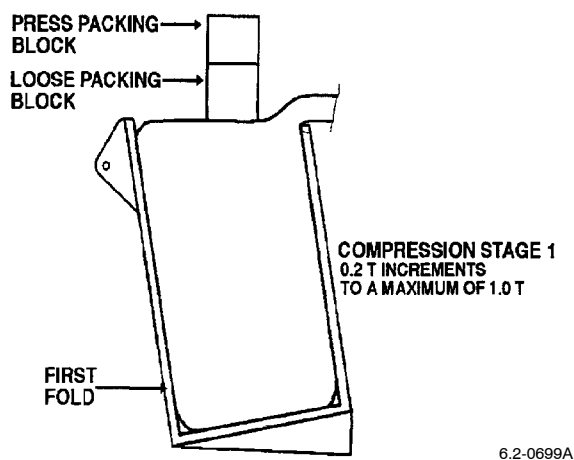

Figure 49. Compressing Deployment Sleeve - Stage 1
b. Position the loose-large packing block (MBEU-149516) in the container, slightly aft of forward, align the packing box and blocks and raise the press table until the blocks are just in contact (Figure 49).